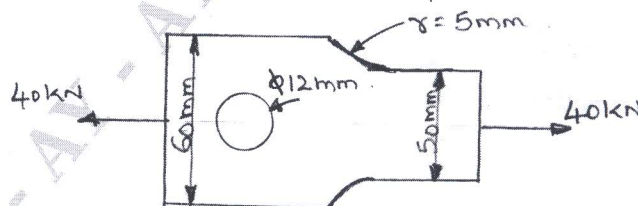

Fig. Q2 (b)
b. Find the thickness of a flat bar as shown in Fig.Q2 (b) subjected to axial load of 40 kN. Material has yield stress of 200 MPa. Assume FoS = 2.5.